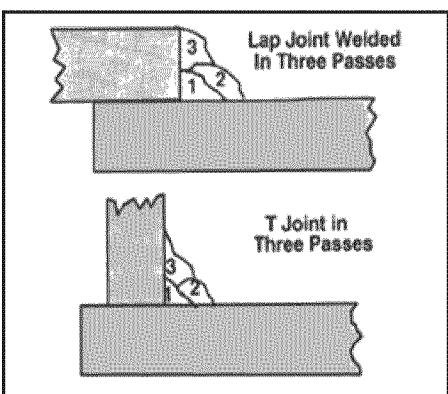

Fig. 12
- FILLET WELD JOINTS. Most fillet weld joints, on metals of moderate to heavy thickness, will require multiple pass welds to produce strong joint. The following figure will show the sequence of laying multiple pass beads into a T fillet joint and a lap fillet joint. (Fig. 12)